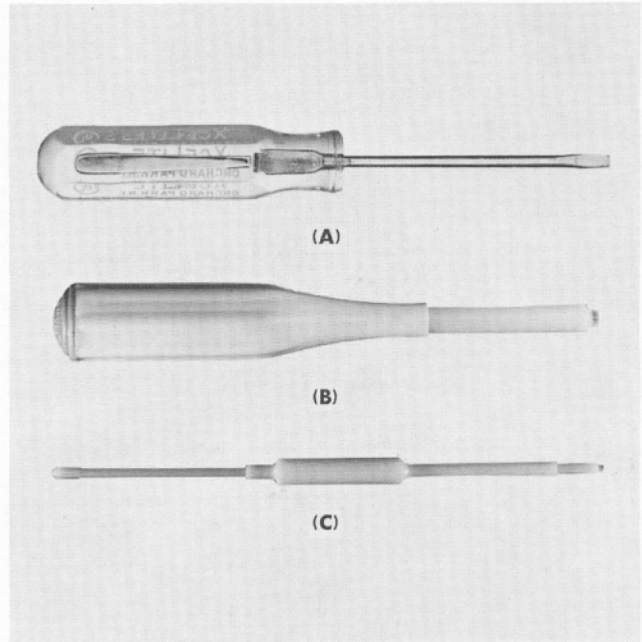

Fig. 6-4. Adjustment tools.
(20) Adjustment tools (one each, see Fig. 6-4):